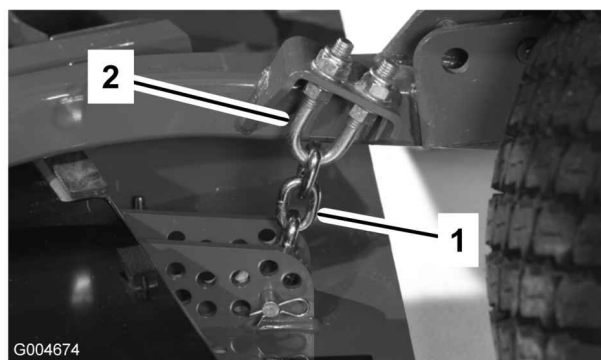

Figure 82
1. Loosen the jam nuts on the top or bottom of the height-of-cut chain U-bolt (Figure 82).